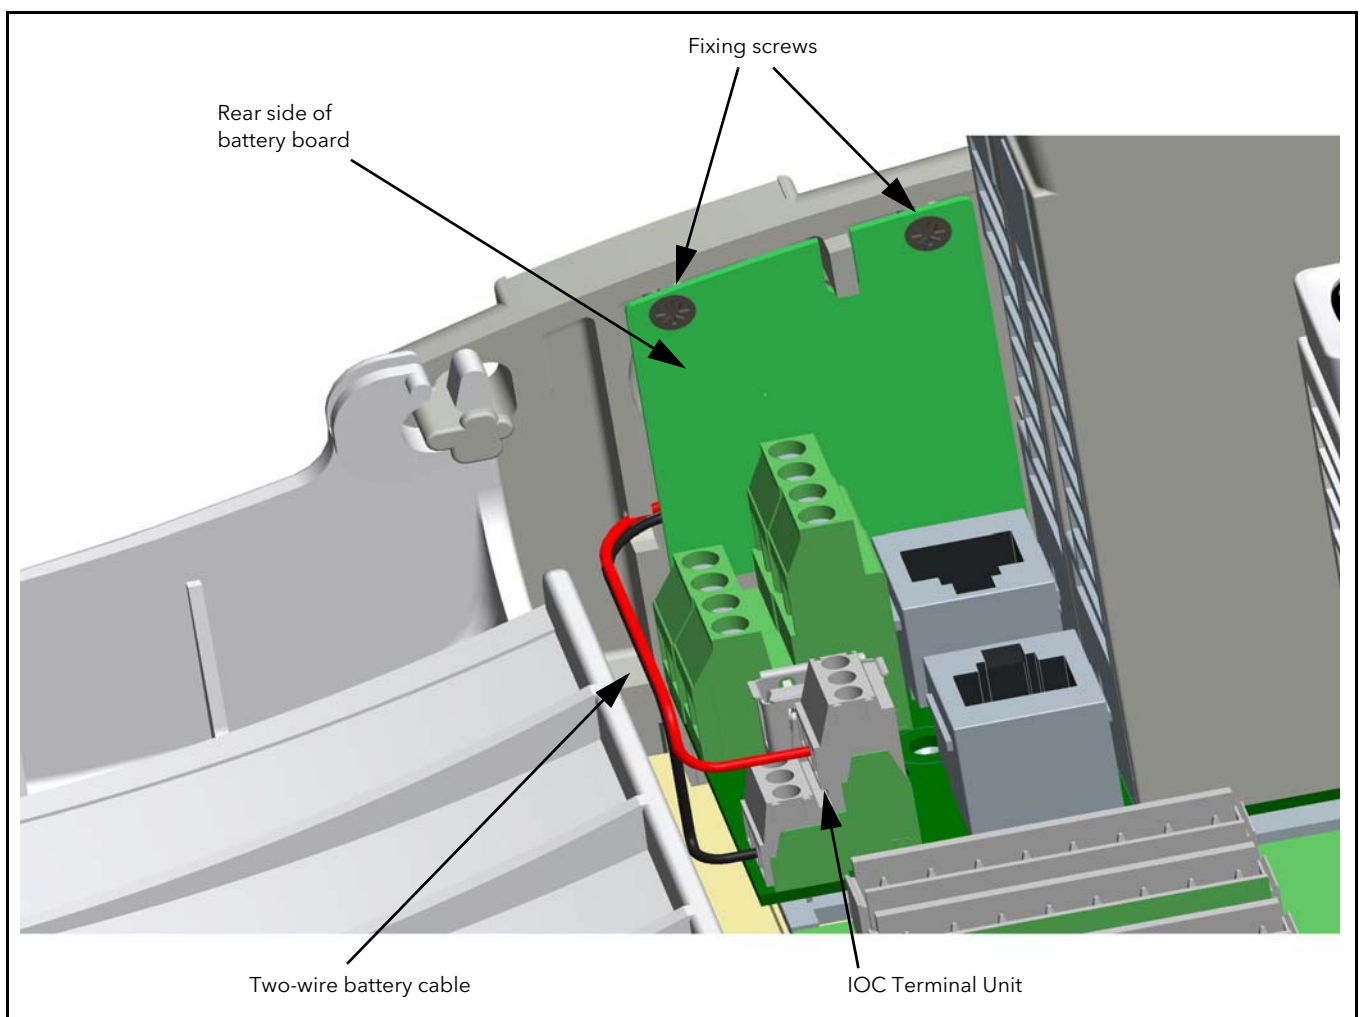

Figure 1 Battery board in place
2. Locate the back of battery board (Figure 1): It is on the inside of the plastic side panel to the left of the controller module, and is fixed in place by two screws. A two-wire cable runs from the front of the battery board to the controller module terminal unit; the red wire connects to the **B+** terminal, the black wire connects to the **B-** terminal. It is recommended leaving these wires connected to the terminals whilst replacing the battery.